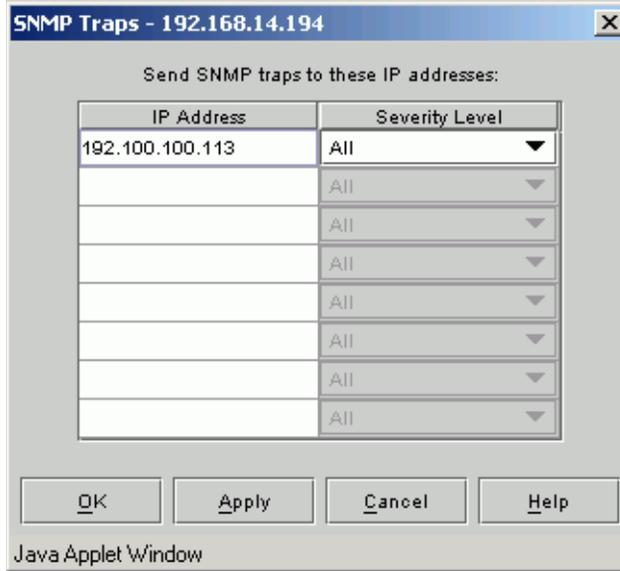

Figure 2-15 SNMP Traps Dialog Box
1. Select *Configuration>System>SNMP Traps* to display the *SNMP Traps* dialog box (Figure 2-15 on page 2-34).